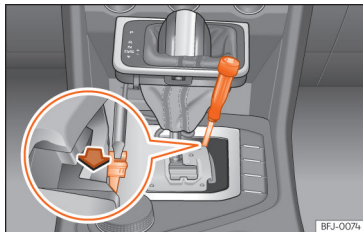

Fig. 170 Gear selector lever: manual release from the parking position.
- Using the flat part of a screwdriver, press the yellow tab sideways and keep it pressed down **Fig. 170**.